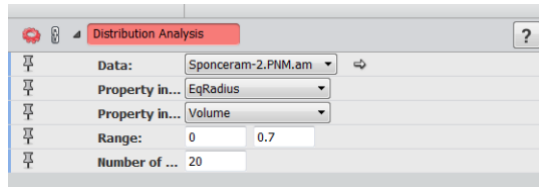

Figure 18.19: Distribution Analysis
- Set the parameters as shown in Figure 18.19 and click **Apply**.